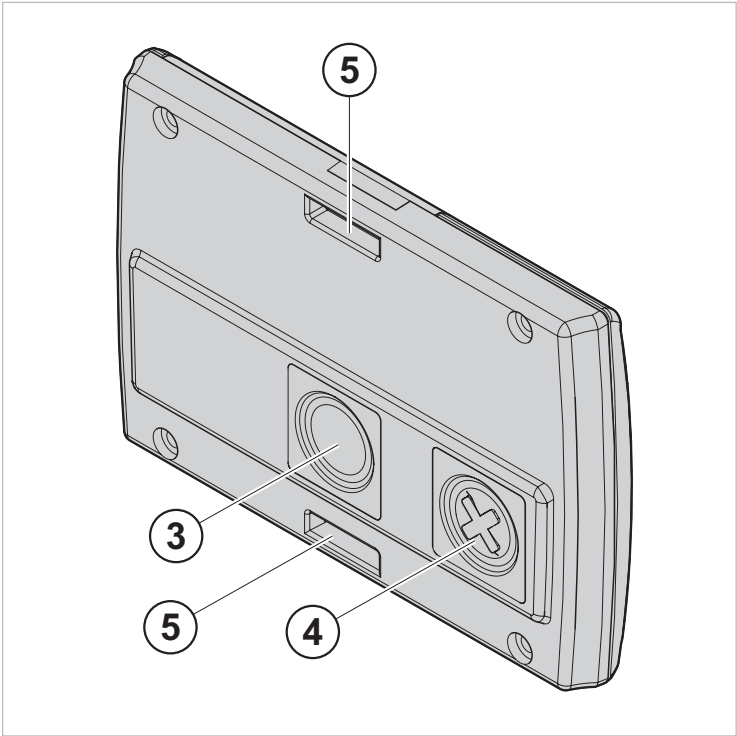

Fig. 2 Staff badge, rear side
- The assistance or assault/SOS call button (3, Fig. 2), to call for assistance or for backup in the event of assault.
- Cancellation button (4, Fig. 2)
- Press the call button (3, Fig. 2) for 10 s until the reassurance light (LED) lights up.
- Press the button for assistance call on the back of the badge (3, Fig. 2).
- Press the button for a SOS or assault call on the back of the badge (3, Fig. 2) several times in quick succession.
- Press the acknowledge button (4, Fig. 2) once while bringing the staff badge up to 0.50 m from the alarm trigger device.